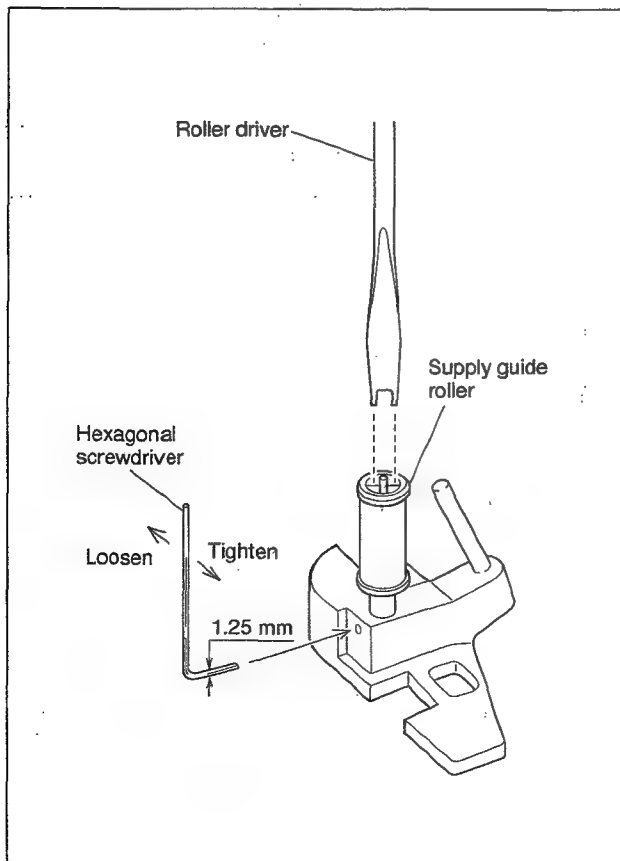

Fig. 2-4-2
- (5) Slightly loosen the set screw under the pole base assembly with a 1.25 mm hexagonal wrench (Take care not to loosen too much). (Fig.2-4-2)